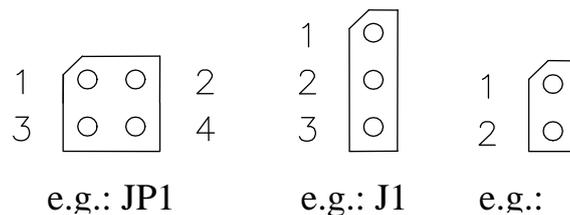

Figure 16: Typical jumper numbering scheme
The phyCARD Carrier Board comes pre-configured with 2 removable jumpers (JP) and 3 solder jumpers (J). The jumpers allow the user flexibility of configuring a limited number of features for development constraint purposes. *Table 32* below lists the 5 jumpers, their default positions, and their functions in each position. *Figure 16* depicts the jumper pad numbering scheme for reference when altering jumper settings on the development board. Note that pin 1 is always marked by a square footprint in the jumper location diagrams that follow.